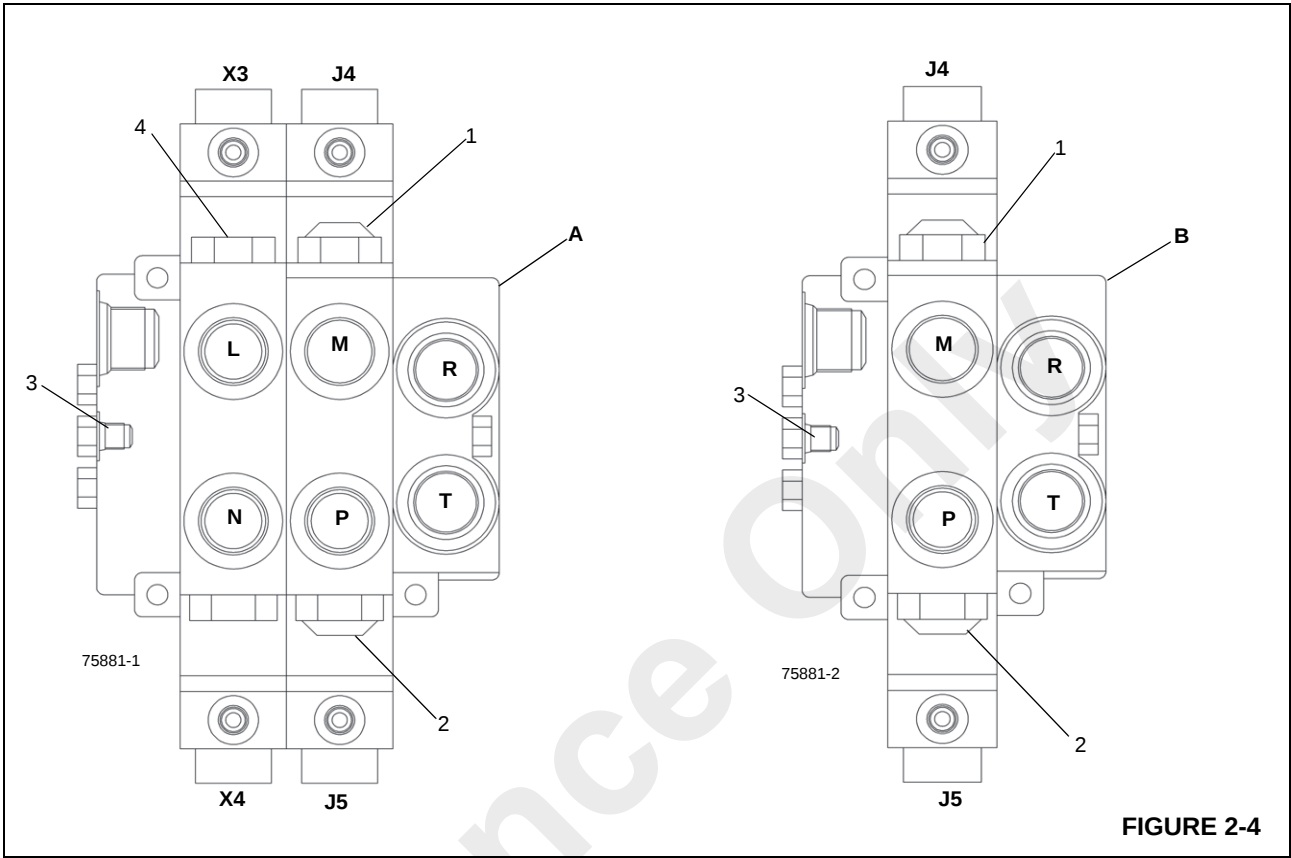

FIGURE 2-4
10. Replace swing relief valve(s) in the swing control valve (Figure 2-4) if pressure measured is not within specification.